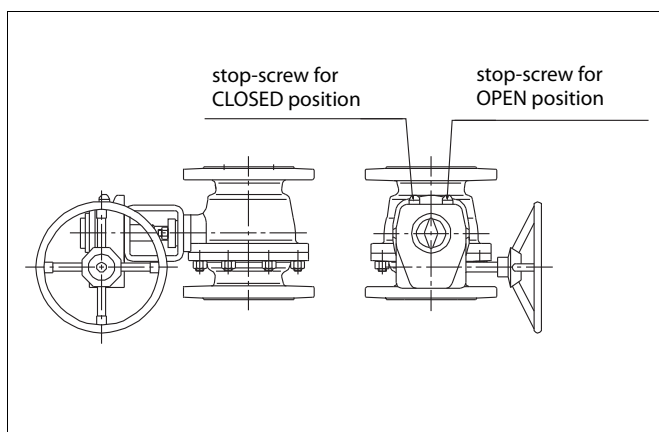

Fig. 30 Open and closed positions of the M actuators
- ❑ Adjust the ball open and closed positions by means of the actuator stop screws located at both ends (see Fig. 30). An accurate open position can be seen in the body flow bore. Check that the yellow arrow on the actuator indicates the ball flow opening position. **Watch out for your hand!**